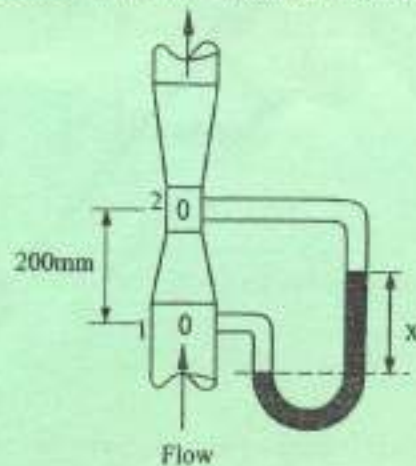

Fig 6
- (c) A 150 x 75mm venturimeter is connected in a vertical pipe conveying a liquid of relative density 0.8 as shown in Figure 6. The pressure connection at the throat is 200mm above that at the inlet. If the actual discharge is 50 litres per second, and $C_d = 0.96$, determine the pressure difference between the inlet and the throat in N/m^2 . (5 marks)